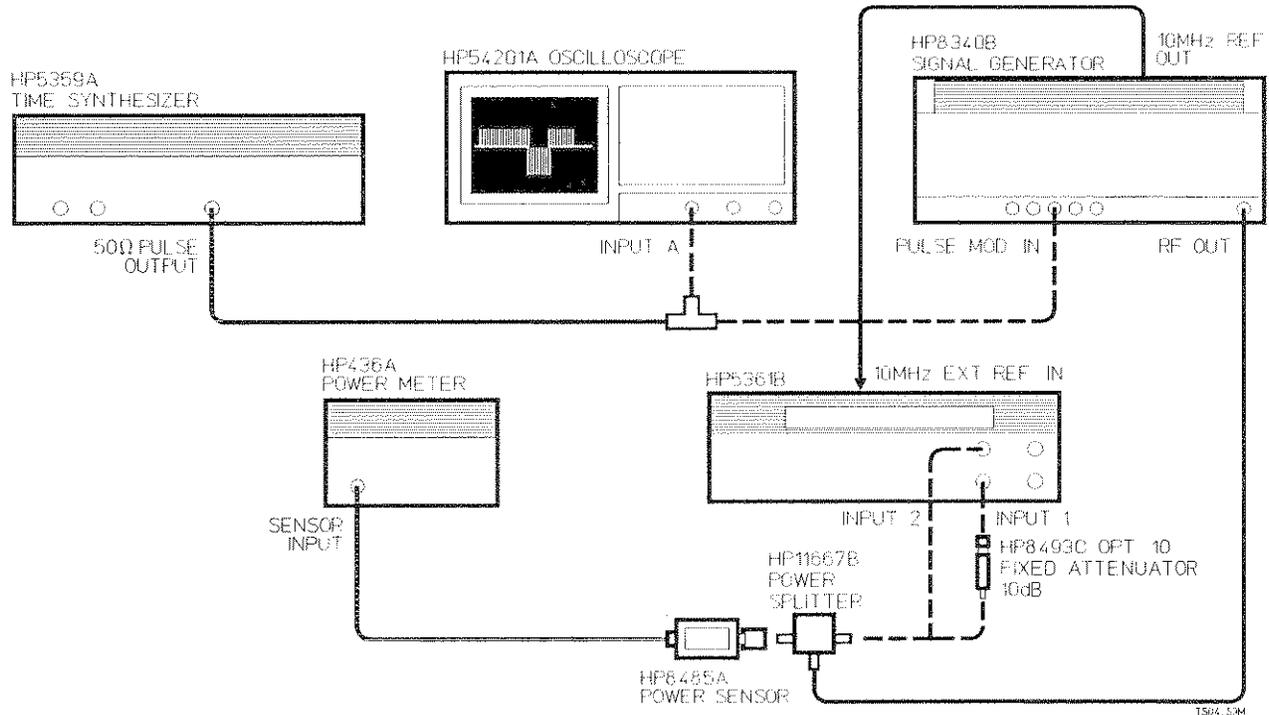

Figure C-1. Setup 1: CW/Pulse, 10 MHz - 26.5 MHz
Description: The counter is set to the 10 MHz - 525 MHz range, 50 Ω impedance, and a 25 mV rms (-19.3 dBm) signal is applied to Input 2 as shown in Figure C-1. The test generator is set to selected frequencies and the 5361B is checked for proper
Description: The counter is set to the 500 MHz - MAX GHz range and the appropriate input signal is applied to INPUT 1 as shown in *Figure C-1*. The generator is set to various frequencies/levels and the actual sensitivity of the HP 5361B is then measured.
2. Connect the equipment as shown in *Figure C-1* (INPUT 1 path). Do not install the 10 dB attenuator pad for CW measurement.
The following specifications, setup illustration, and test steps describe the INPUT 1 pulsed RF sensitivity for the HP 5361B within 500 MHz - MAX GHz frequency range. *Figure C-1* shows the test setup.